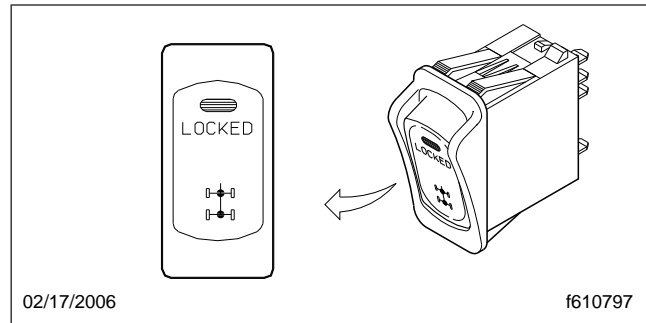

Fig. 15.2, Differential Lock on Both Axles
- one switch to control the differential lock on only one of the drive axles (this switch will show only one dot on one drive axle, varying slightly from the switch shown in **Fig. 15.2**).
- one switch to control the differential locks on both drive axles (**Fig. 15.2**).